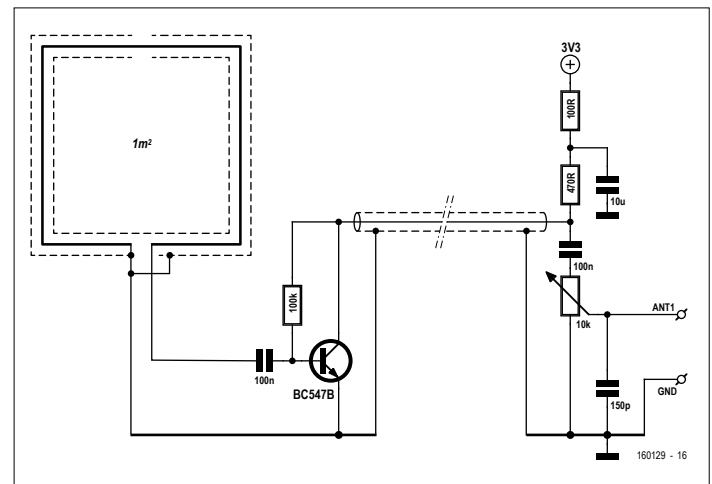

Figure 6: Wideband Loop with preamplifier.
All these tests have proved that (1) magnetic antennas give the best results indoors, (2) they need to be placed as far as possible away from the computer and (3) the best antenna location in the home is next to an external wall or a window. All of these insights point in the direction of a magnetic loop with a preamplifier, powered remotely over a coaxial cable (**Figure 6**).